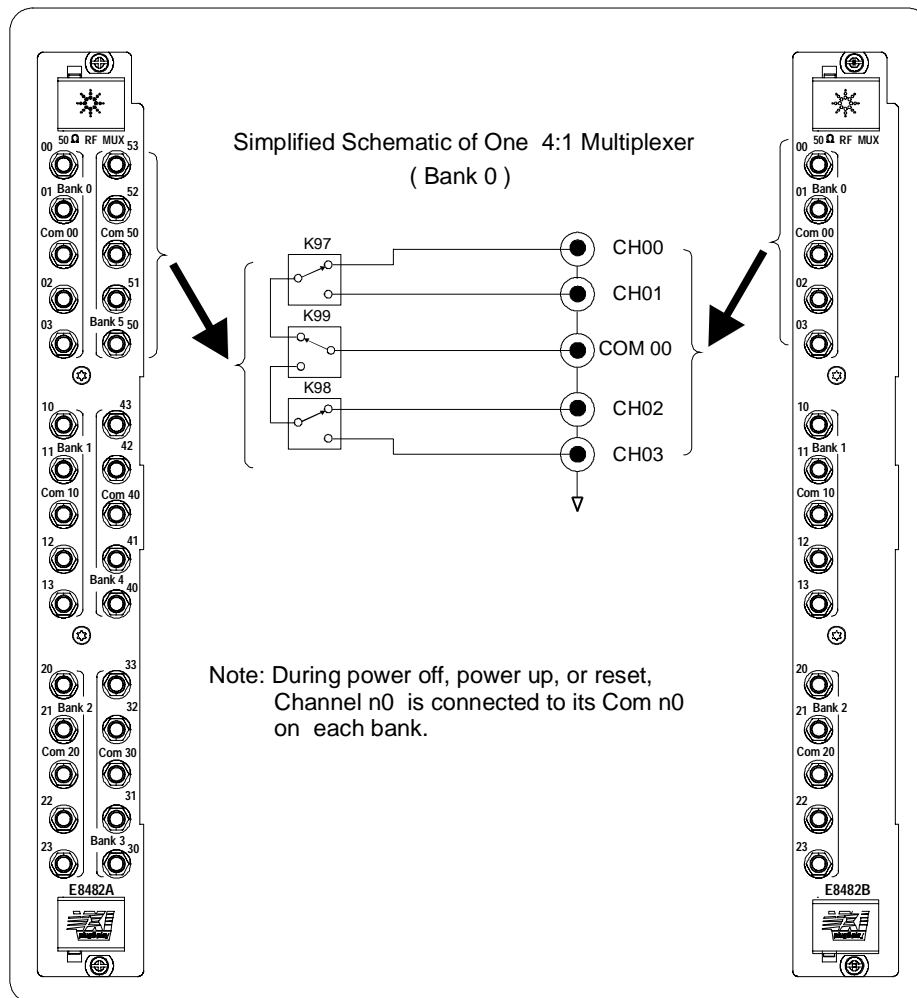
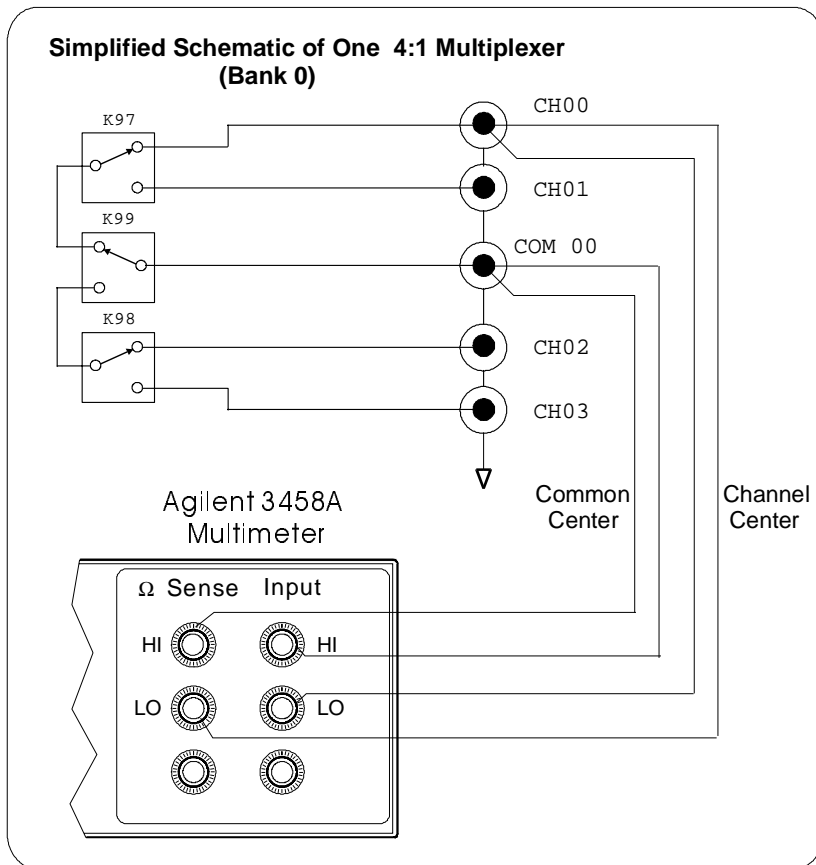

Figure 1-3. Simplified Schematic of the RF Multiplexers
Figure 2-1. Closed-Channel Resistance Test Connections
As shown in Figure 1-3, the E8482A consists of six banks of channels (banks 0 - 5) to form six 1x4 RF multiplexers, while the E8482B consists of three banks of channels (banks 0 - 2) to form three 1x4 RF multiplexers. The switching sections of each bank are identical.
- Connect the DMM (Agilent 3458A) between the center conductor of the COM 00 connector and the center conductor of the channel 00 connector (see Figure 2-1). Refer to Figure 1-3 for the channel connector locations on the module's front panel.